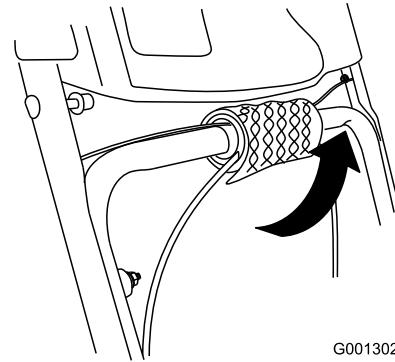

Figure 5
1. Unwrap and discard the bubble wrap from the cables on the lower handle (Figure 5).